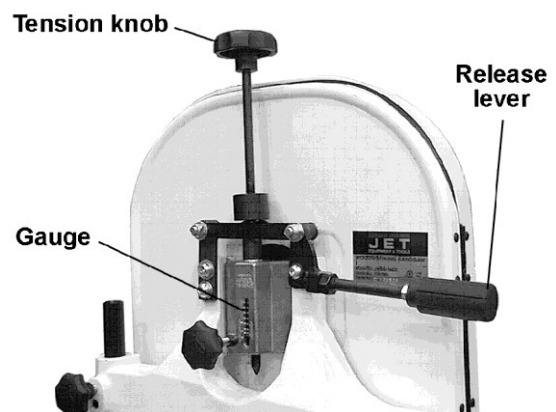
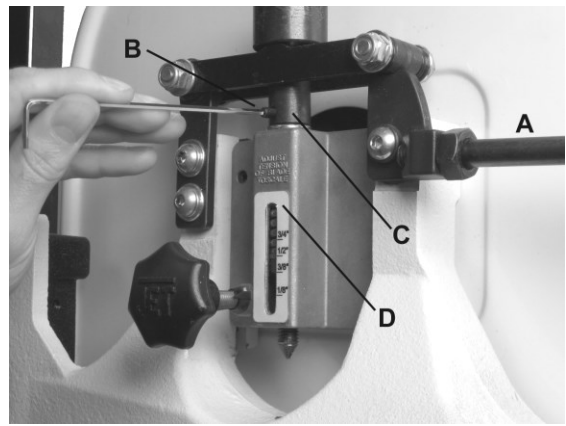

Figure 15
Figure 17
2. Loosen blade tension by pushing up on the release lever (Figure 15).
3. Turn blade tension knob (Fig. 15) clockwise to tension blade. The blade width gauge (D, Fig. 17) indicates the approximate tension according to the width of the blade. Initially, set the blade tension to correspond to blade width*.
7. Using a 2.5mm hex wrench loosen the set screw (B, Fig. 17) in the lower bushing (C, Fig. 17).
8. Using a pair of pliers rotate the bushing (C, Fig. 17) down only about 1 to 2 turns.
9. Replace the set screw (B, Fig. 17) and check for proper tension. Repeat the process if necessary.